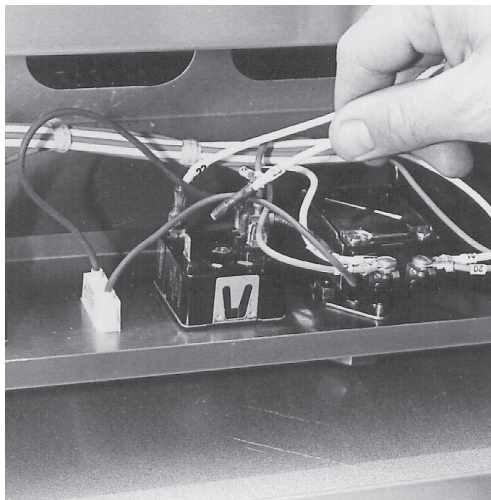

Fig. 9
6. Note and remove the infinite switch wire connections. (Fig. 9)